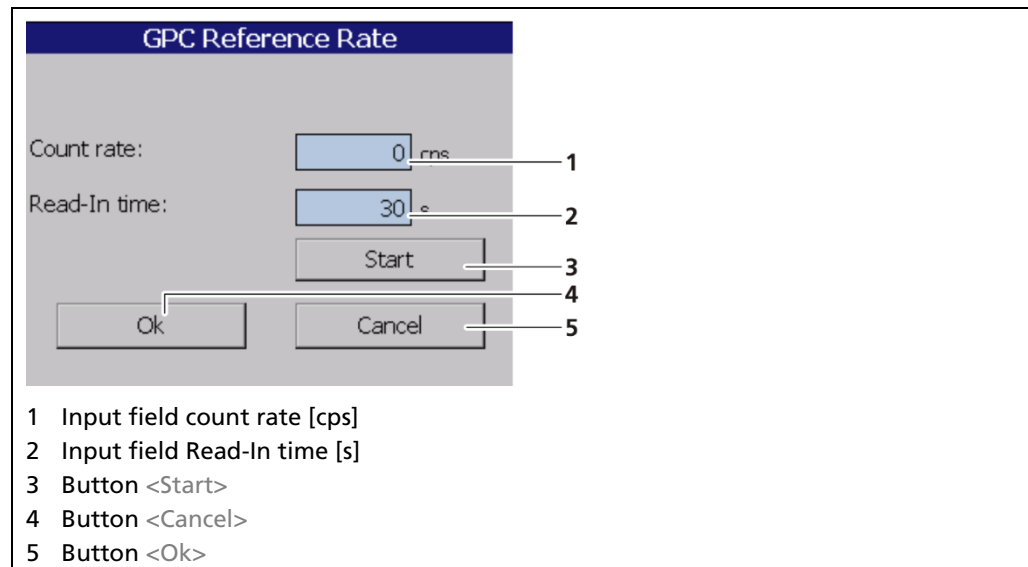

Fig. 78 GPC Reference Rate
► A new window "GPC Reference Rate" opens (Fig. 78).
2. Click on the "Read-In time" field (Fig. 78, item 2) and specify the duration of measurement in seconds. The higher you set the measurement time, the more accurate the result.
The value of the count rate may be entered manually (Fig. 78, item 1), if a determination of the unique reference count rate is not possible.